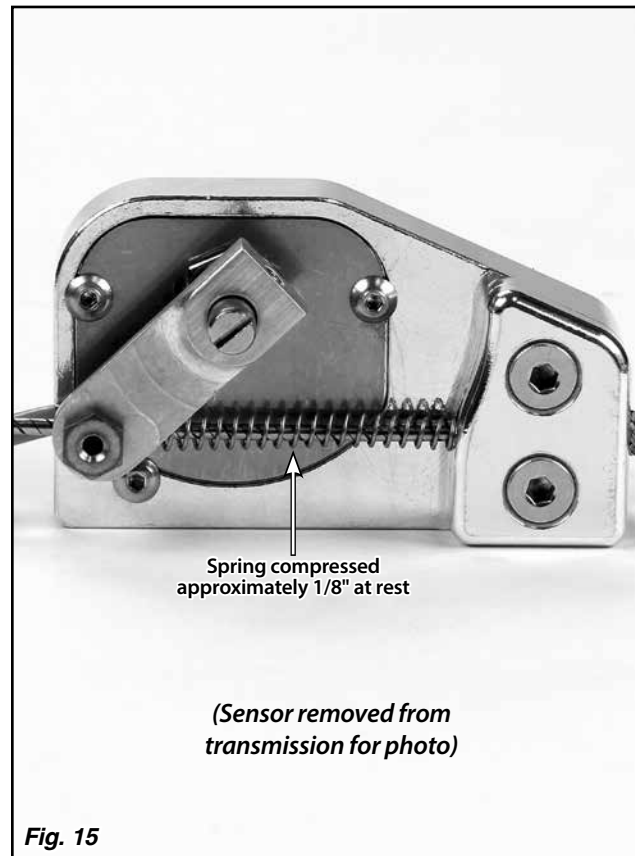

Fig. 15
Step 14: Make sure the transmission is in Park. **Push the sensor arm up against the spring, so that the spring is compressed approximately 1/8" at rest in Park.** Fig. 15 Tighten the set screw that is installed in the index cable stop on the sensor arm using a 1/16" Allen wrench. Trim the excess inner wire, leaving about 1" protruding.